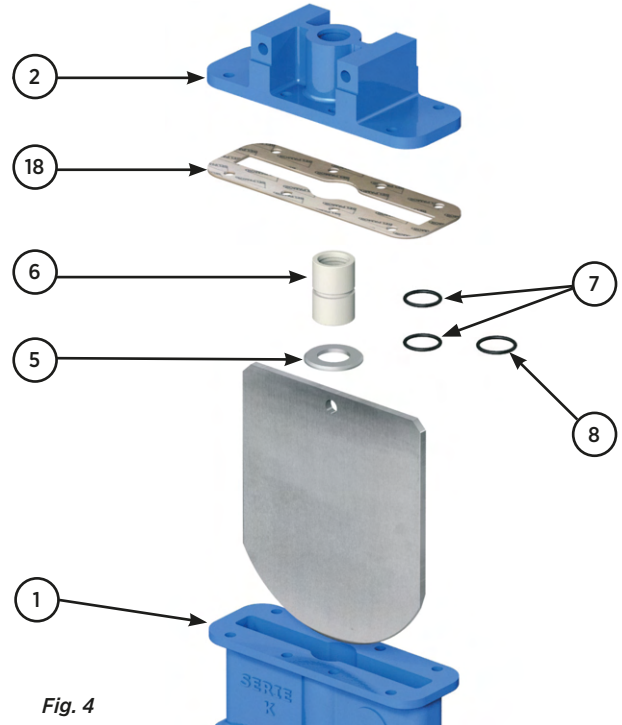

Fig. 4
This packing (Fig.4) achieves watertight integrity by inserting a socket between the body and the rod. This socket (6) is limited at the top (2) by the cover and at the bottom by a washer (5), it also has two internal seals in contact with the rod and another external (8) one in contact with the body (1), to ensure watertight integrity.